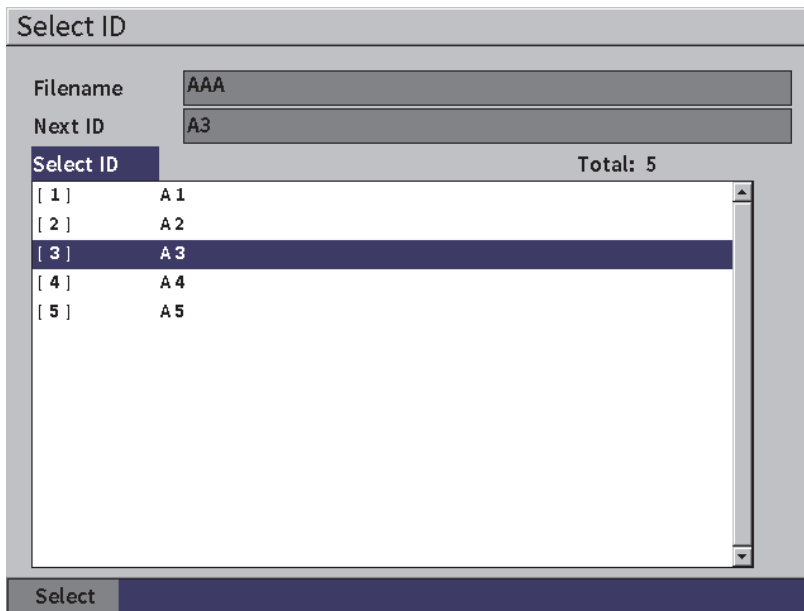

Figure 9-8 Viewing all the IDs in a file
1. While on the setup parameters page (see Figure 9-7 on page 131), press the Tab key to highlight the **Select ID** button, and then press the Enter key to open the **Select ID** setup page (see Figure 9-8 on page 132).